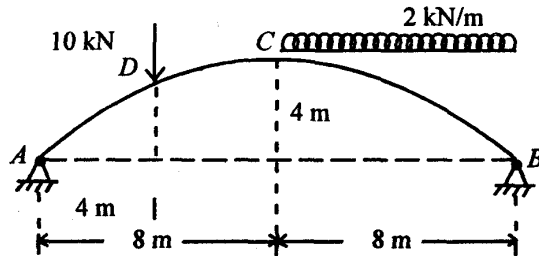

Fig. 2
2. (a) For a two hinged parabolic arch (Fig. 2), moment of inertia of the section varies as secant of the slope. Determine (i) reactions at the supports; (ii) normal thrust and radial shear at section D ; and (iii) bending moment at C .